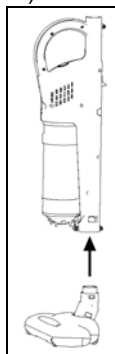

Fig. 2
2. Hold the motorized brush and push it in the base of the stick vac completely. (Fig. 2)